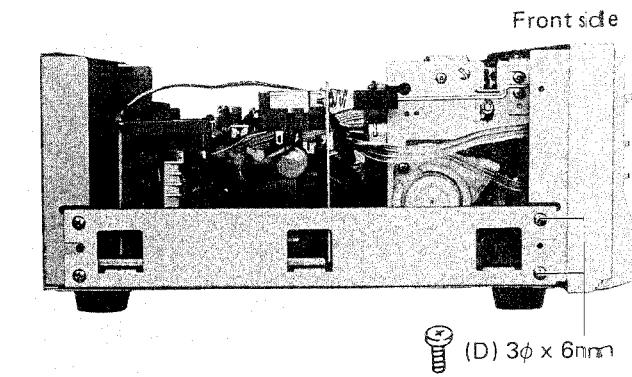

Figure 7
3. Remove four screws (D), holding the panel Bracket. See Figures 7 and 8.